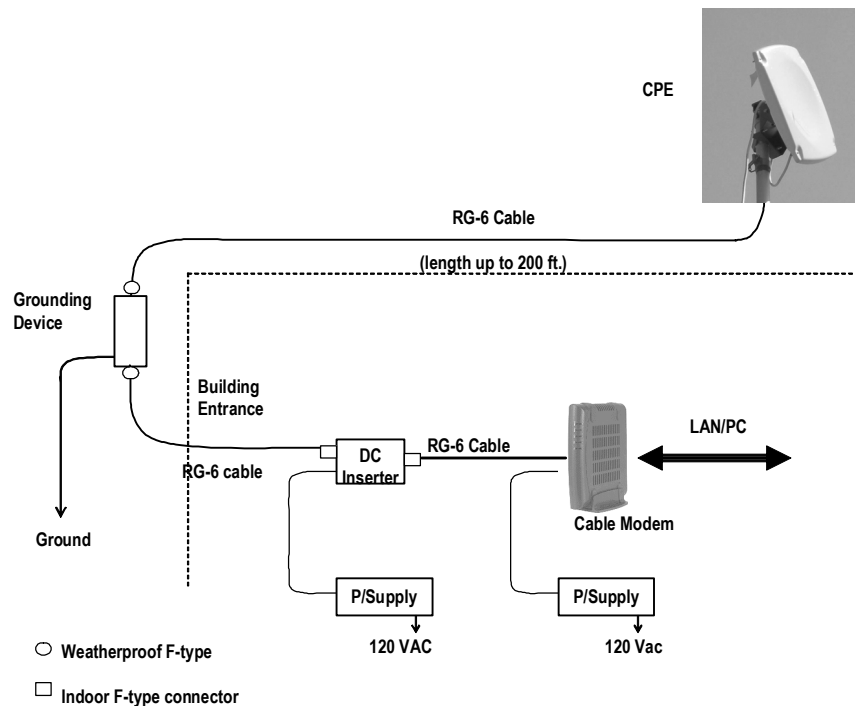
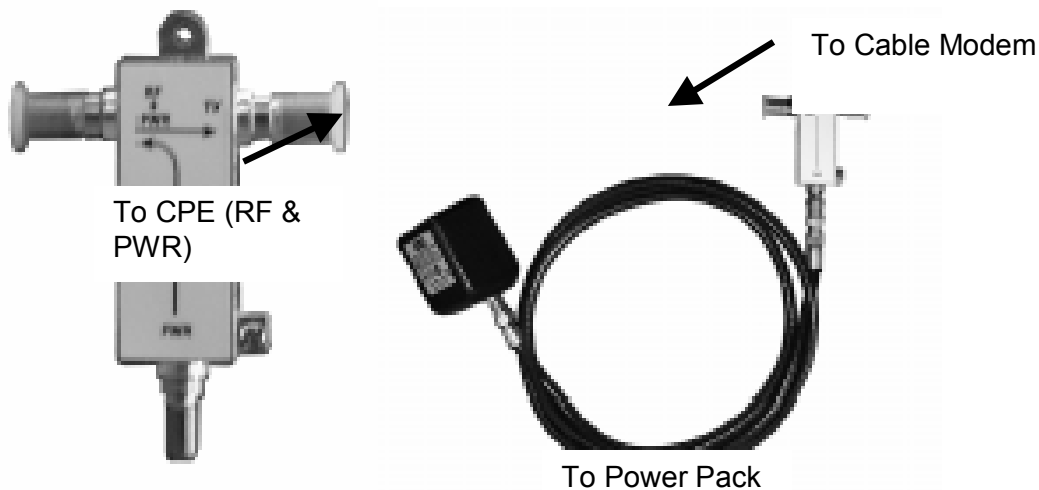

Figure 4-4: CPE Wiring Diagram
Figure 4-6: Power Inserter and AC/DC adaptor
👉 Install the coaxial cable and ground connection as shown in Figure 4-4:
- ☞ Install the DC inserter as show in Figure 4-6. Connect the power adaptor to the DC inserter as show in Figure 4-4 and figure 4-6. Plug the power adaptor into a surge protected AC power receptacle. Note the AC Power Pack must be within 300 feet of the CPE.
Connect the cable modem to the modem side of the DC power inserter as shown in 4-4 and Figure 4-6. Complete installation of the cable modem using normal procedures.